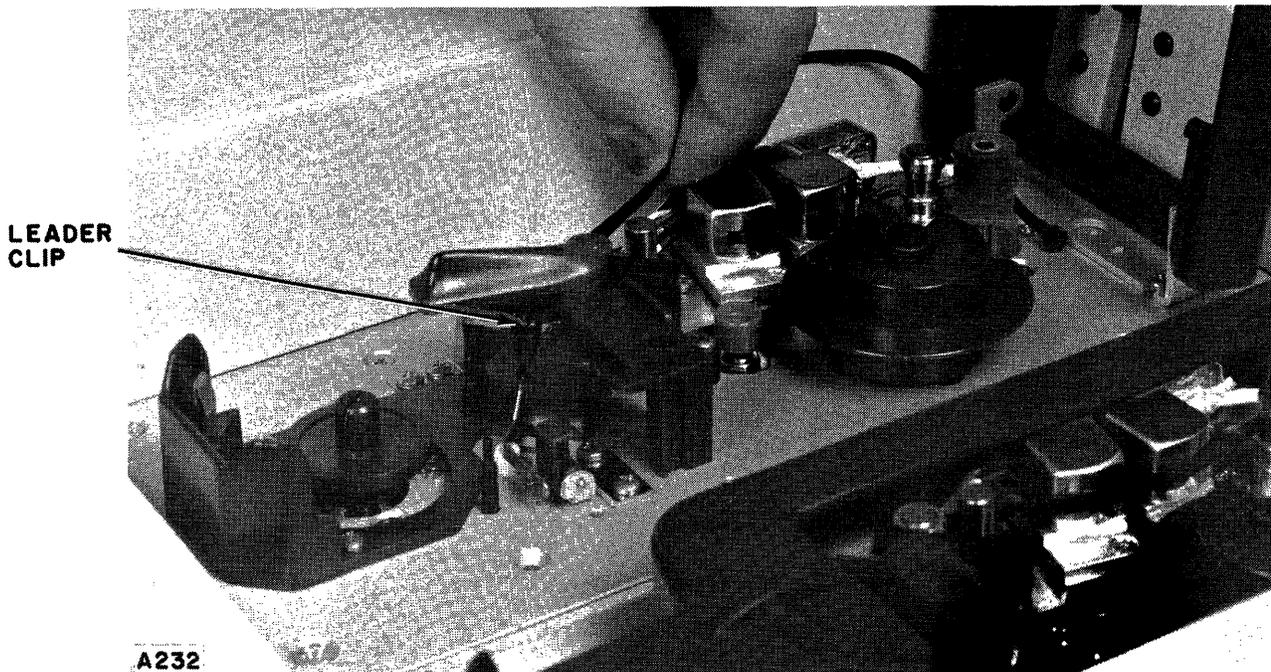

Figure 4-5. Removing the Leader Clip From the Clip Channel
- e. Move locking lever to the lock position. When the locking lever is in the lock position, the clip channel is open and the leader clip may be removed. (See figure 4-5 for this step and the following step.)